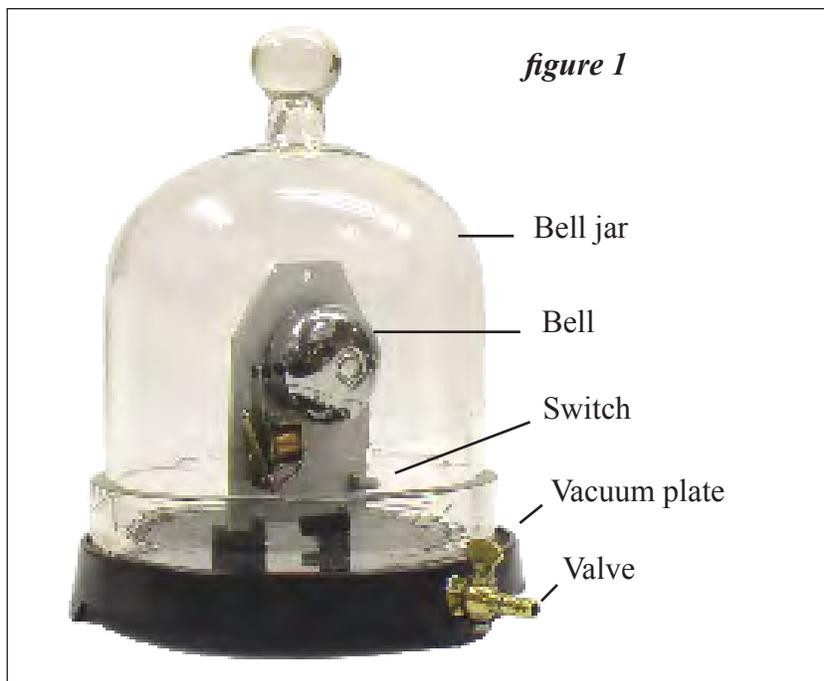

figure 1
1. Place two (2) AA batteries in the rear of the bell assembly and flip the switch on the front to test the bell.
3. Connect a vacuum pump to the vacuum plate using a rubber hose. Position the valve to the open position as in *figure 1*.